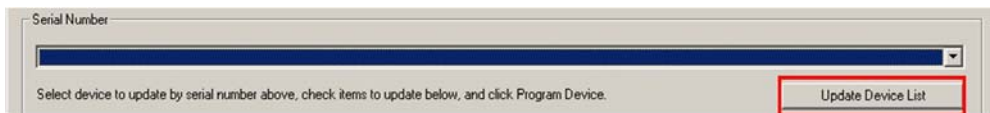

Figure 16 – Screen, CP210x Set IDs (Executing ID # Change)
- 4) Press the ‘Program Device’ button. The upper ‘Serial Number’ box will become blank as shown in Figure 16.